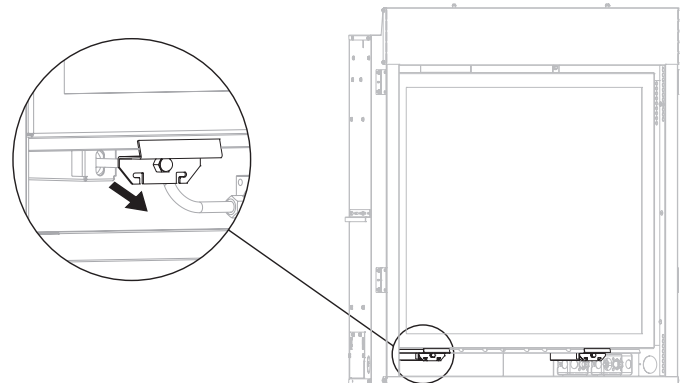

Figure 5
2. Undo two latches at bottom of firebox assembly. **See Figure 5.**
15. Reconnect the latches at the bottom of the firebox assembly. **See Figure 5.**